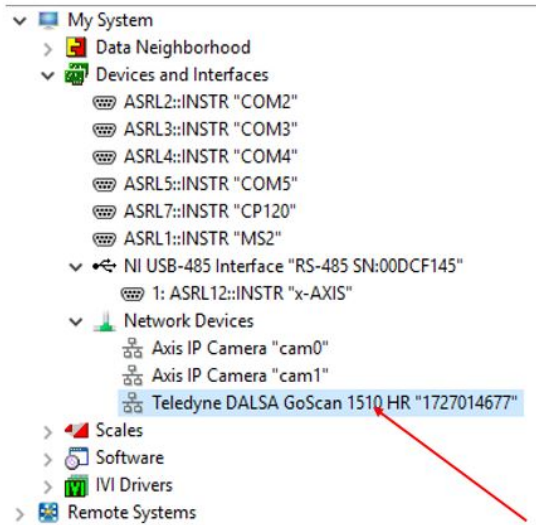

Figure 61- NIMAX device manager
2. Select **Device and Interfaces>Network Devices> Teledyne DALSA GoScan 1510HR** (Figure 61)